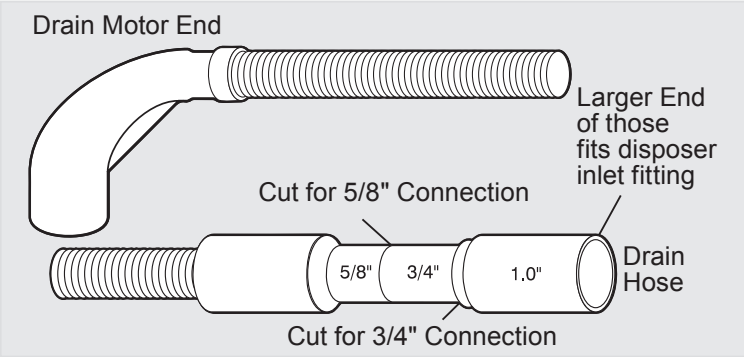
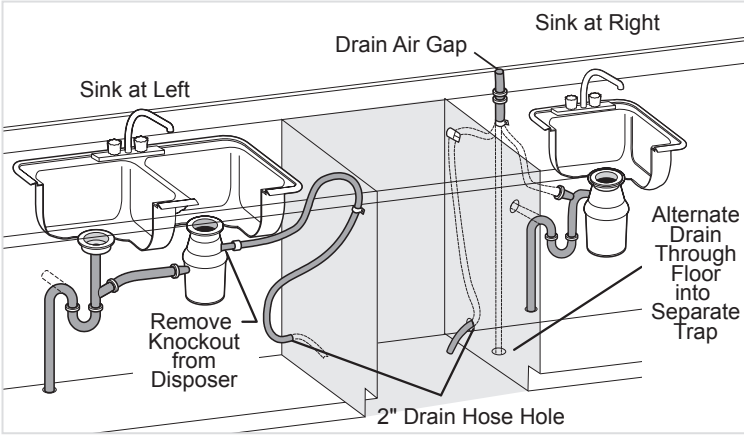

Figure 7
Figure 8
- If you connect to a disposer, the large end of drain hose will fit. Figure 7. The knockout plug must be removed from inside disposer inlet before making the final fit to drain hose. See Figure 8.